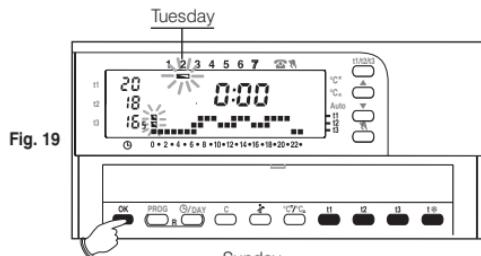

Fig. 19
When **OK** is pressed (fig. 18) to confirm, the program set for Monday is saved in the memory and the dash beneath **Tuesday** (2) will blink together with the digits pertaining to the time **0:00**, above the temperature range for the previous day (fig. 19).
Press **OK** (fig. 19) to apply the same temperature range as for Monday: the same range will be set for Tuesday and the dash pertaining to **Wednesday** will blink together with the digits corresponding to the time **0:00**.